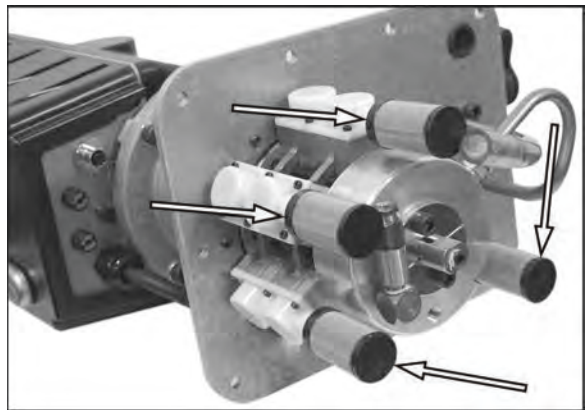

Figure 55.
2. See Figure 55. Remove the inlet suction filters.